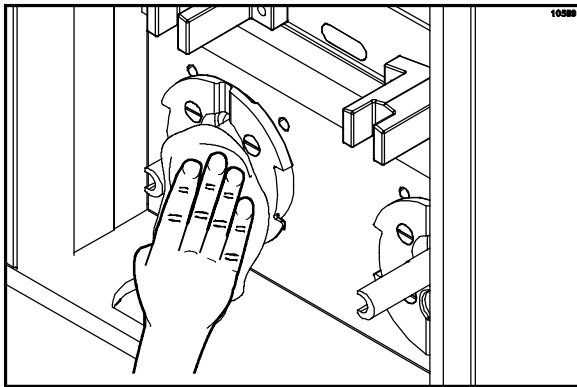

Figure 6
3. Using a clean, sanitized towel, wipe the pump motor shaft and housing on the dispenser. (See Figure 6.)